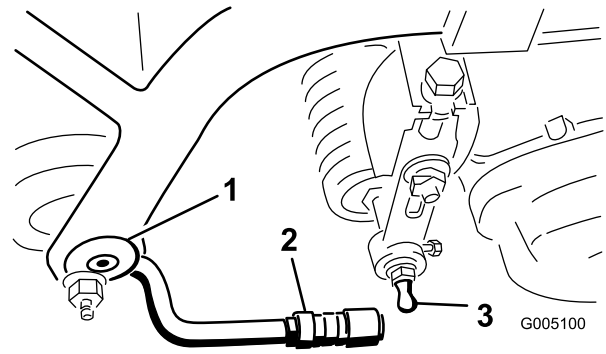

Figure 9
2. Mount a washer and ball stud to each end of the front roller on the cutting units (Figure 9).
4. Slide the sleeve back on the ball joint and rotate the pull arm down so the socket fits over the ball stud. Release the sleeve so it slides over the stud and locks the assemblies together (Figure 9).